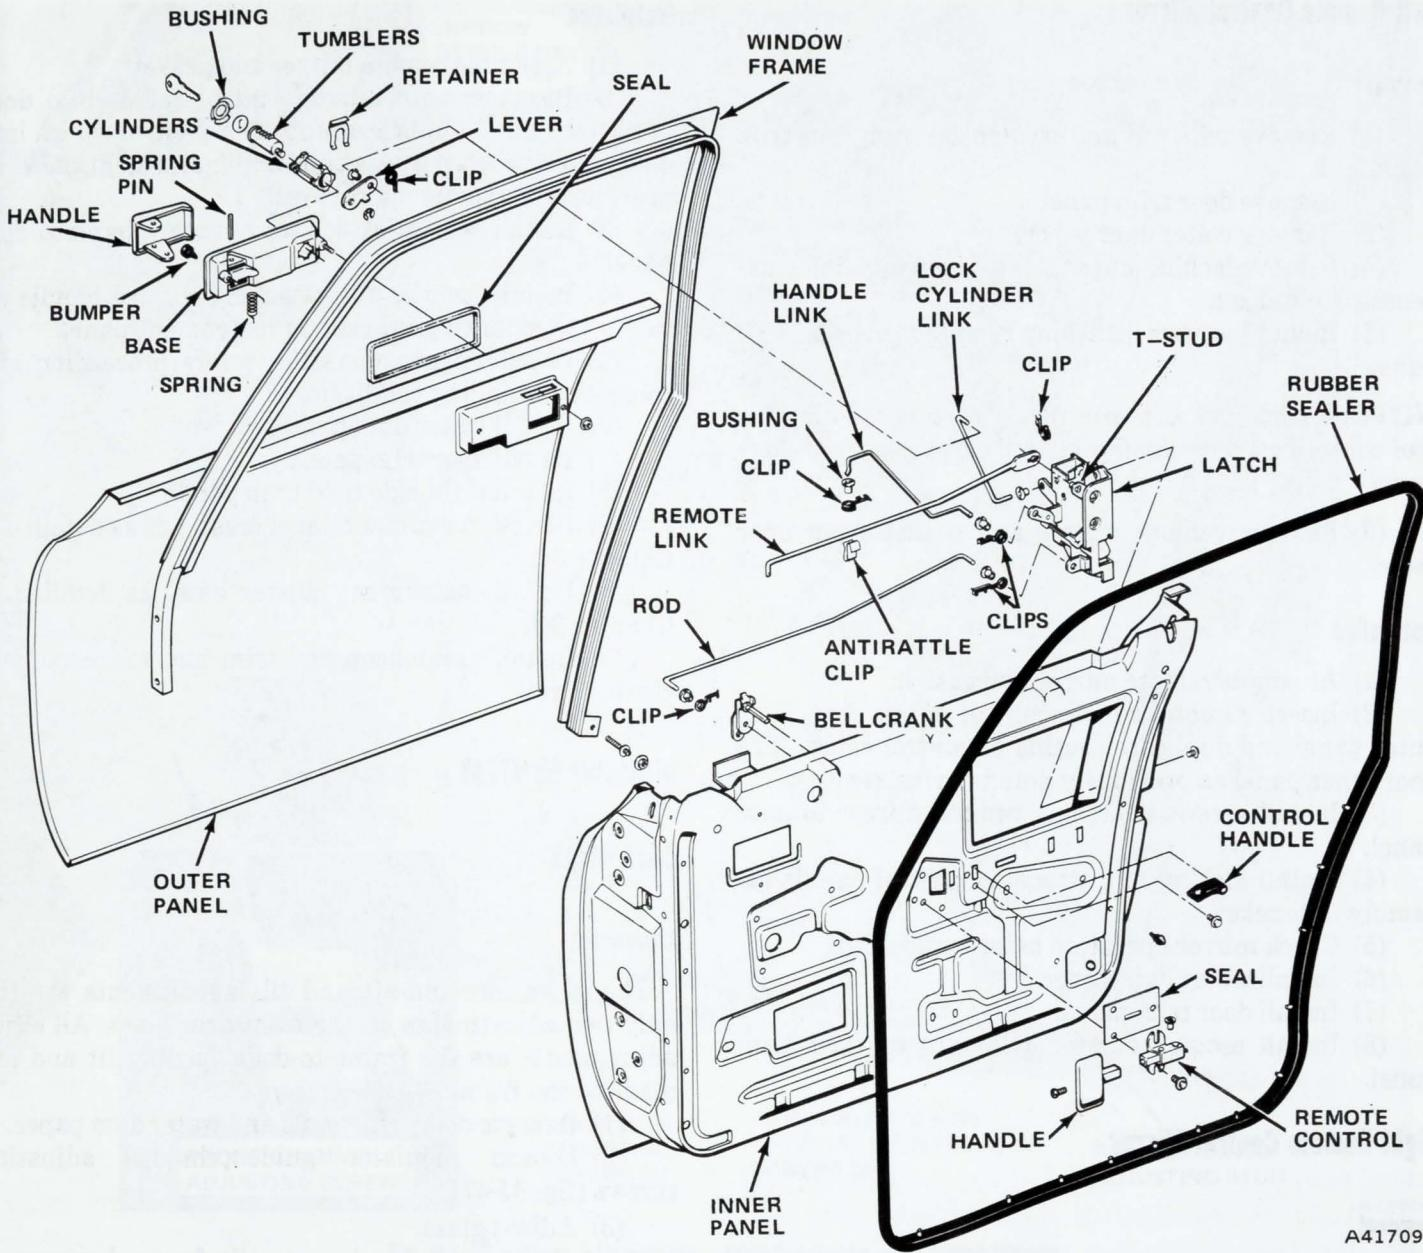

Fig. 3J-46 Door Components—Matador Sedan and Station Wagon
(1) Carefully remove rubber sealer (fig. 3J-46) from door using needlenose pliers to remove plastic retainers from door panel holes.